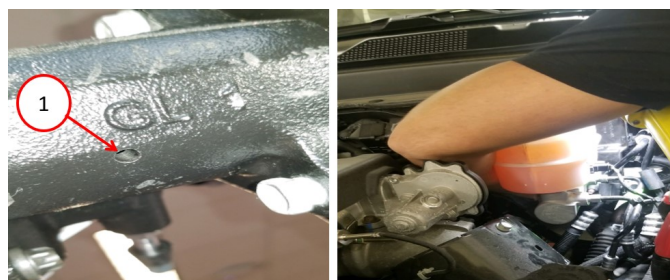

Fig. 2
2. Using the clean cloth or paper towels with cleaner applied, wipe the bottom of the black power brake hydro-booster body around the weep hole to remove all oils, moisture, and debris. The weep hole is located at the six o'clock position of the power brake hydro-booster assembly as installed, near the master cylinder/power brake hydro-booster assembly connection and can be reached from the inboard side Fig. 2.
7. Using a clean cloth or paper towels **without** brake cleaner applied, wipe the power brake hydro-booster weep hole. The weep hole is located at the 6 o'clock position of the power brake hydro-booster assembly as installed, near the master cylinder/power brake hydro-booster assembly connection Fig. 2.